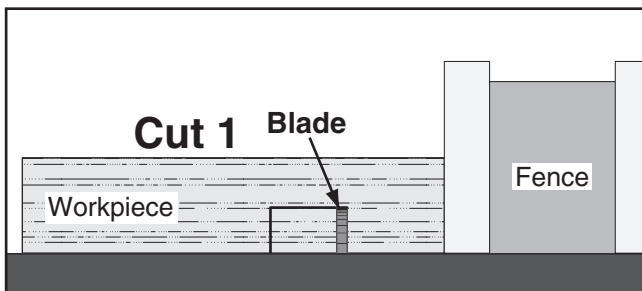

Figure 52. First cut for a single-blade dado.
5. Align the blade to cut one of the dado sides, as shown in **Figure 52**.